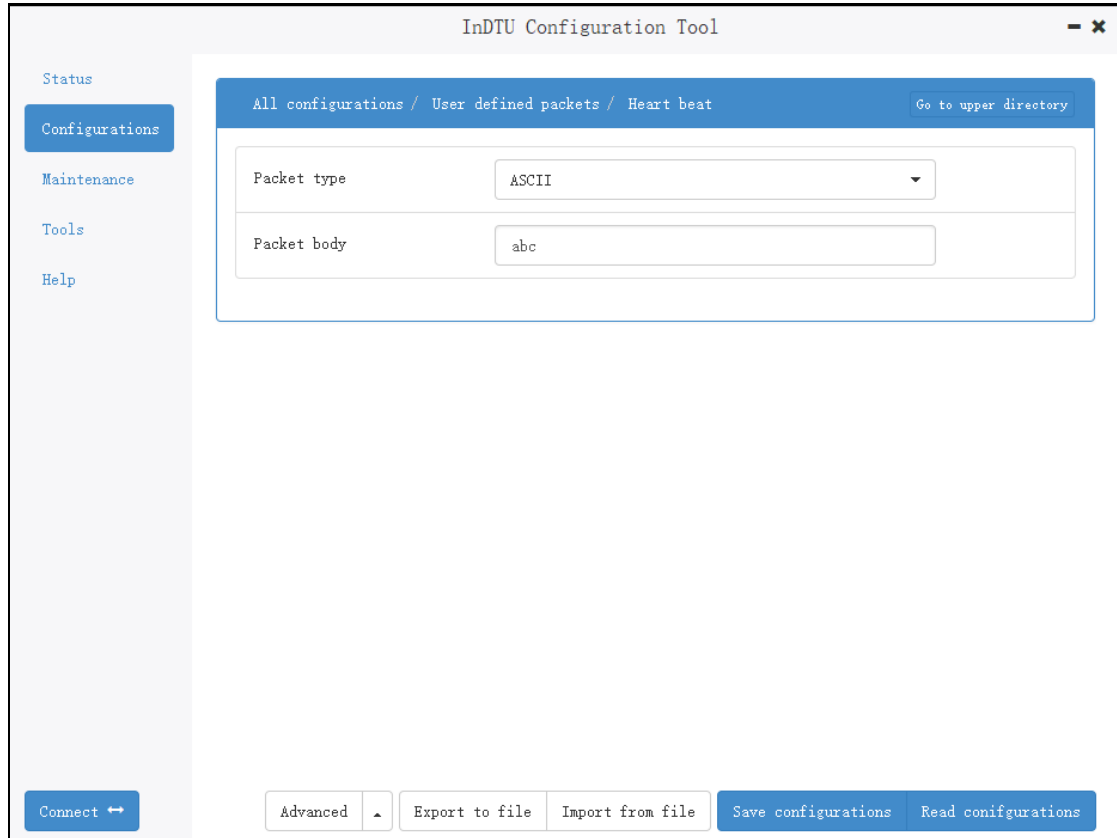

Figure 5-10 UDP Example 2
Step 3: Configure heartbeat packet. Choose “Configuration > User defined packets > Heart beat”. Select the packet type and enter the packet body, as shown in Figure 5-10.